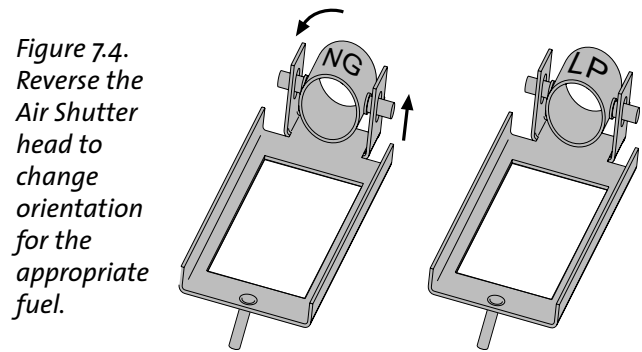

Figure 7.4.
7. Reverse the Air Shutter orientation to indicate the appropriate fuel. Fig. 7.4.